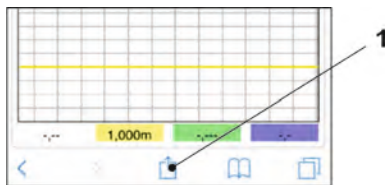

Fig. 31-16 Set up link
8. Use the symbol "Provide" (Fig. 31-16 no. 1) to set up a link on your home screen (for direct access).